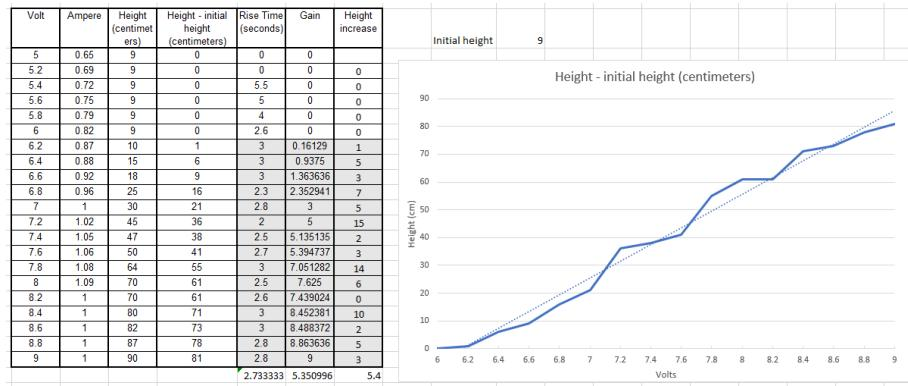

Figure 3.1: The gray rows indicate the rows of which the average is calculated below the columns.
- The most stable part of is from 6.2 volts to 9 volts. From the data table in figure 3.1 you can see that there is an exponential gain. The derivative of the range between $\frac{81cm - 1cm}{9V - 6.2V} = \frac{80cm}{2.8V} = 28.57$ and this is $\frac{28.57}{5} = 5.6$. So on average the helicopter rises 5.6cm per 0.2V. Looking at the average increase in figure 3.1 this seems about right. The gain is 28.57. One important thing about this gain is that 6 volts need to be subtracted from the input voltage for the first order transfer function to work. From 6 volts on the the helicopter starts to get lift.